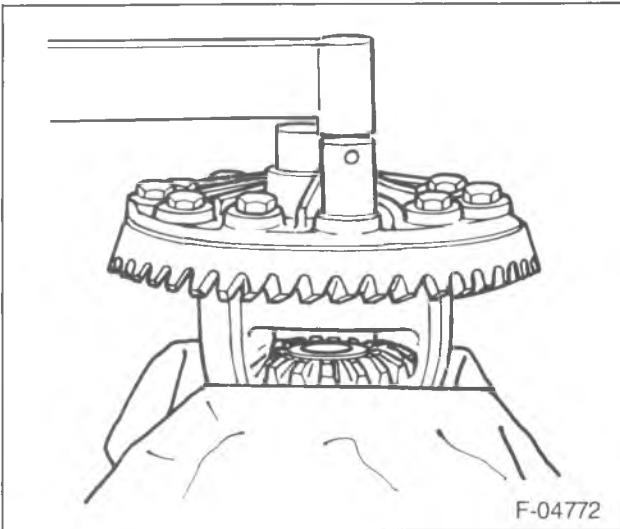

Figure 60—Installing the Ring Gear Bolts
7. Ring gear (2) to the differential case (22).
8. New ring gear bolts (23) (figure 60).